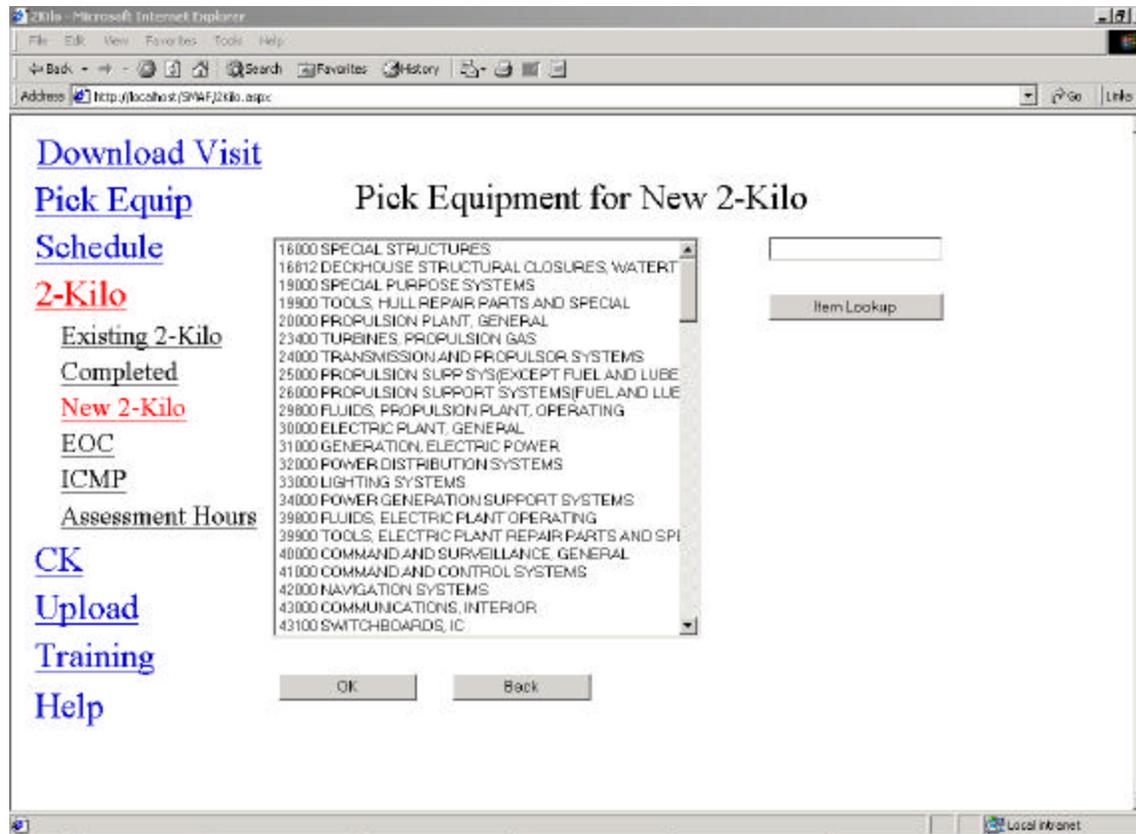

Figure 1.7 Pick Equipment for NEW 2-Kilo
1. Select the equipment name from the **Pick Equipment** list (See figure 1.7)
Back: To go back the **Pick Equipment for New 2-Kilo** form (Figure 1.7).